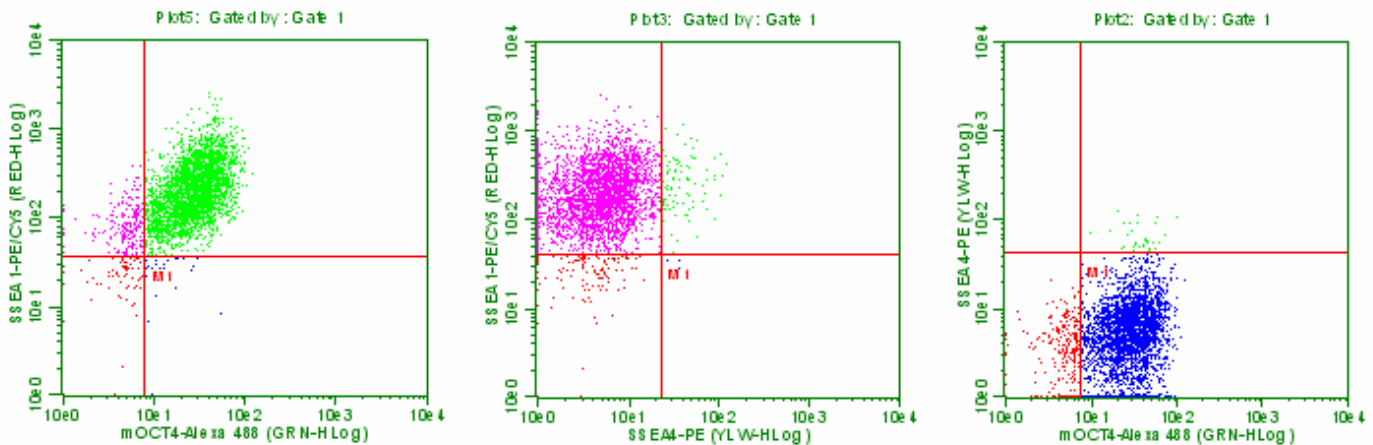

Figure 1. Representative data of CMTI-2 mouse embryonic stem cells stained with mOCT4-Alexa 488, SSEA4-PE and SSEA1-PE/CY5.
25. Once cells are acquiring, click on compensation window 1 and adjust compensation, so that you get the desired result, i.e. something very similar to the data presented in Figure 1 of this manual.